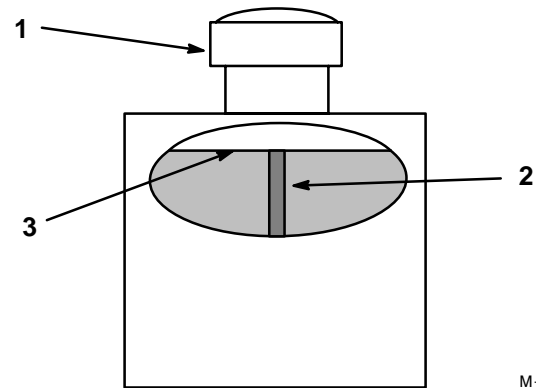

Figure 8
2. Clean area around filler neck of hydraulic tank (Fig. 8).
3. Remove cap from filler neck. Look inside to check if there is fluid in the reservoir. (Fig. 8).
Note: Fluid level should be to the top of the baffle when fluid is warm (Fig. 8).